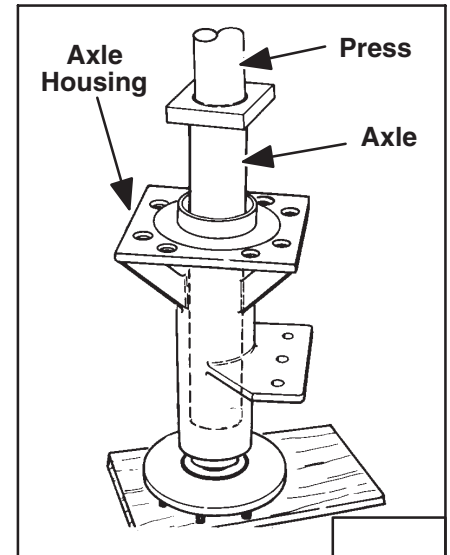

Fig. 4-26 Installing Axle In Housing
6. Install axle in housing. Use a press to prevent damage to the bearing and seal (Fig. 4-26).